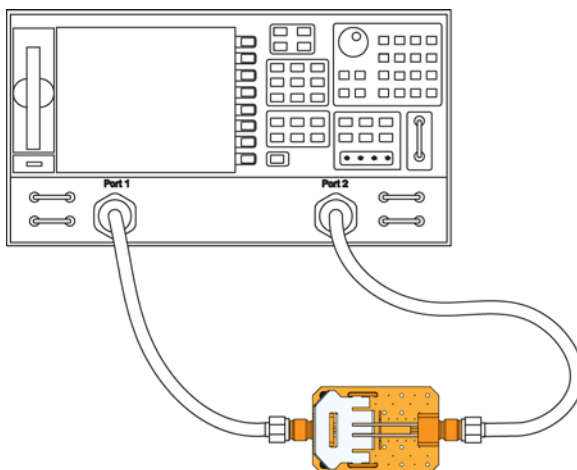

Figure 18 Forward and Reverse Setup
- 17 Connect the **PORT 2** SMA cable to the non-pincher side of PV fixture as shown in Figure 18.